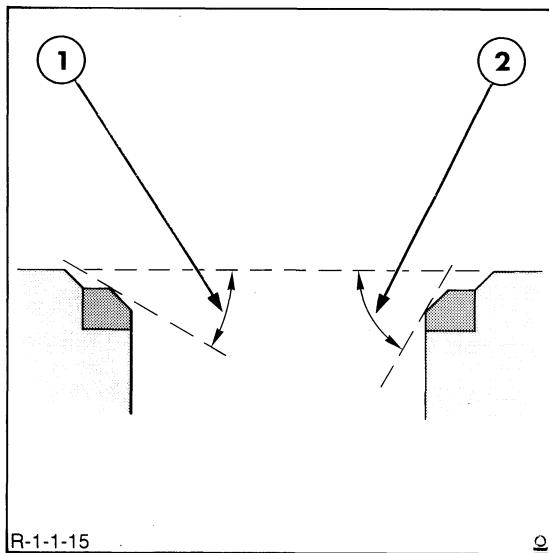

Figure 15
8. Lower the valve seat by removing stock from the top of the seat with a 30° grinding wheel, Figure 15. Raise the seat by removing stock from the bottom of the seat with a 60° grinding wheel.